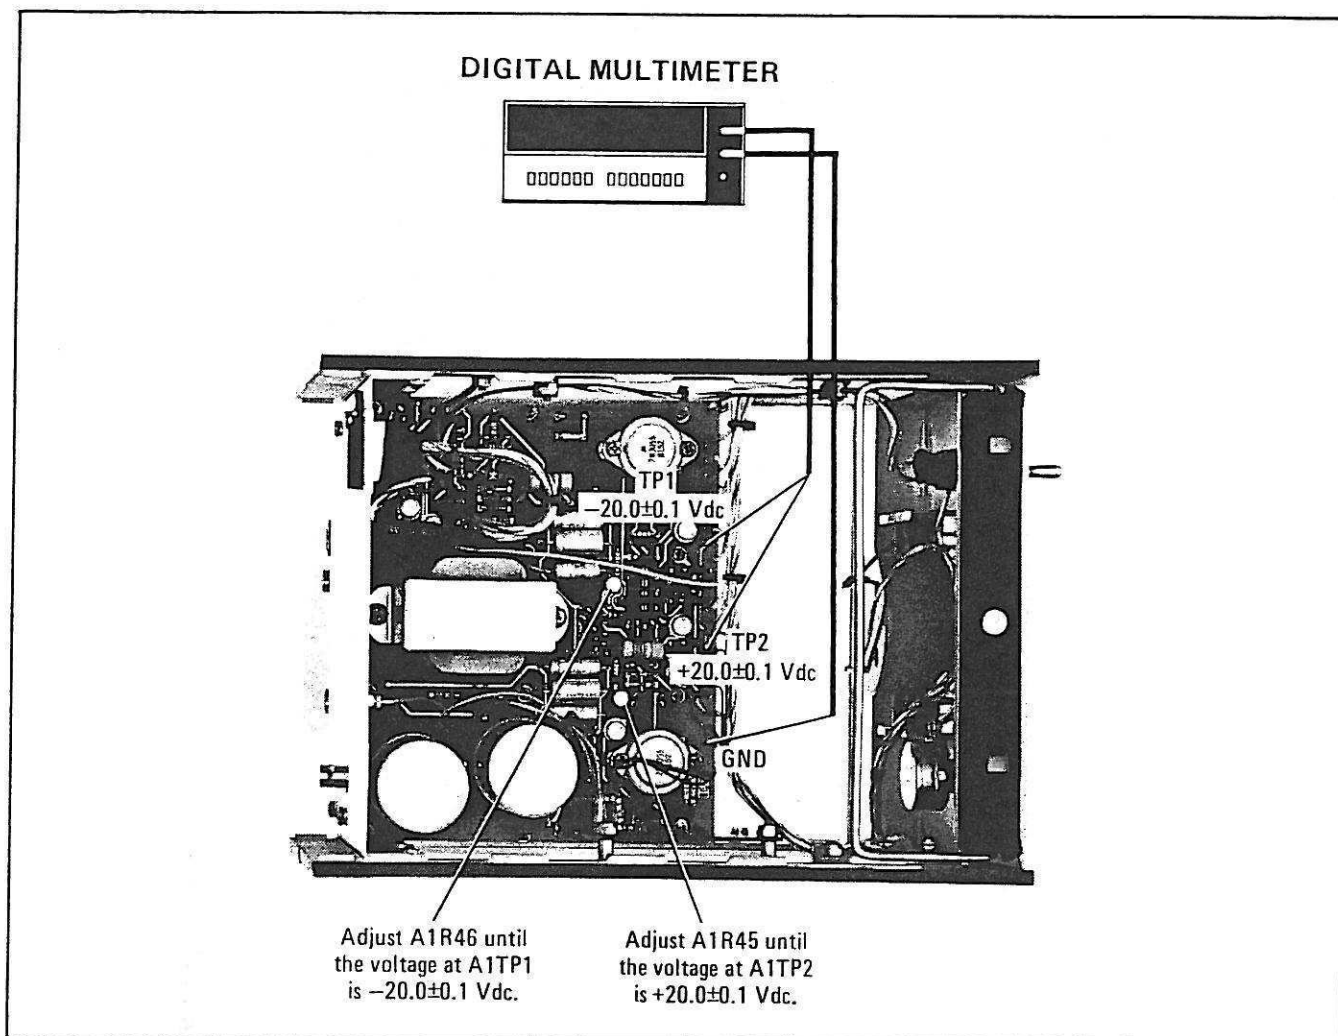

Figure 5-2. HP 8709B Power Supply Adjustment
1. With the power cable disconnected, remove the bottom cover from the HP 8709B. Locate test points A1TP1 and A1TP2, and adjustable resistors A1R45 and A1R46 on the A1 power supply board (HP Part Number 08709-60105), as shown in Figure 5-2.